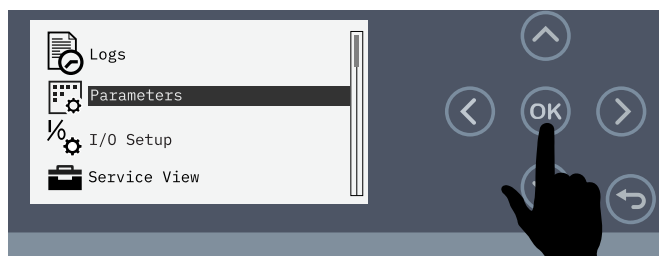

Figure 105. Select Parameters
2. Press the **Down Arrow button** (Figure 105) until **Parameters** is highlighted on the display screen, then press the OK button.